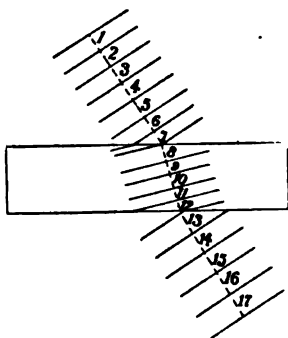

FIG. 369.—Diagram illustrating the cause of refraction.
at equal time intervals the successive positions 1, 2, 3, etc., indicated in Fig. 369. Suppose that the upper and lower parts of the field have a smooth hard surface, while at the center is a strip of newly ploughed ground. The line will move more slowly over the ploughed field than over the hard field. This will result in a retardation of the end of the line first striking the soft ground with a resulting change of direction of the line, *toward* the perpendicular to the edge of the field (*on entering the place of more difficult travel*), and *away* from the perpendicular on moving into a place where *increased speed* results.
**379. Index of Refraction.**—By studying the change of direction of the marching men as shown in Fig. 369 it is evident *first* that it is due to a difference in speed in the two media. It is not easy to measure the speed of light in a medium. However, the amount of refraction may be determined easily and from this the *relative* speed may be computed. The *number that expresses the ratio of the speed of light in air to its speed in another medium is called the index of refraction of that medium.* The relative speeds of light, or the indices of refraction for some substances, are: